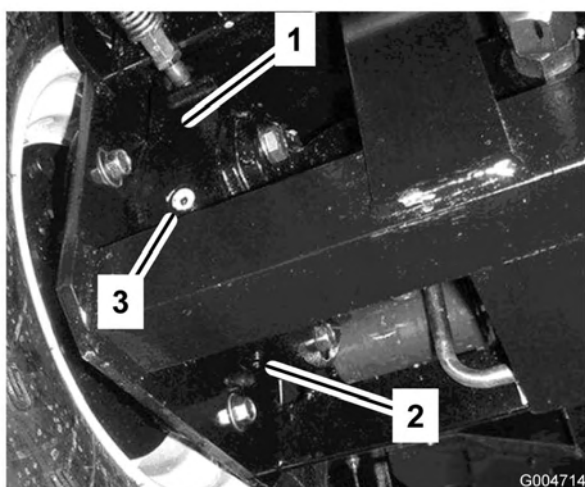

Figure 58
4. Place a drain pan under the brake housing on the other side of the wheel (Figure 58).
7. Remove check plug from brake housing (Figure 58).